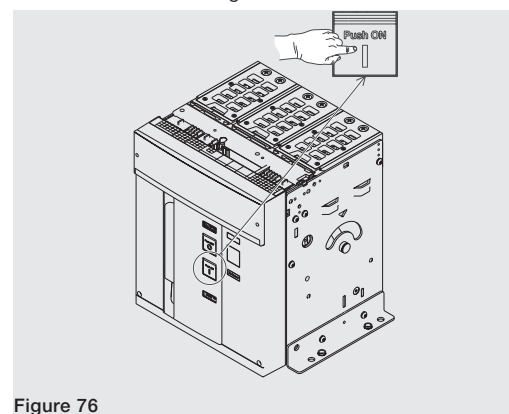

Figure 76
4. Closing - Press the closing pushbutton "I - Push ON" as indicated in Figure 76.